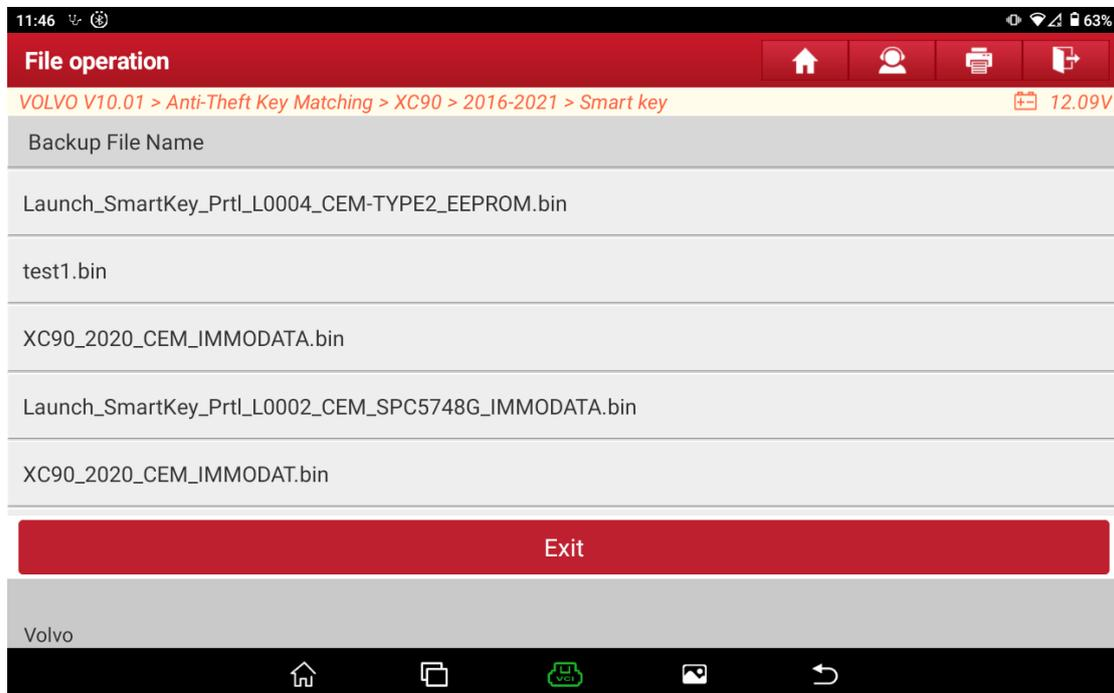
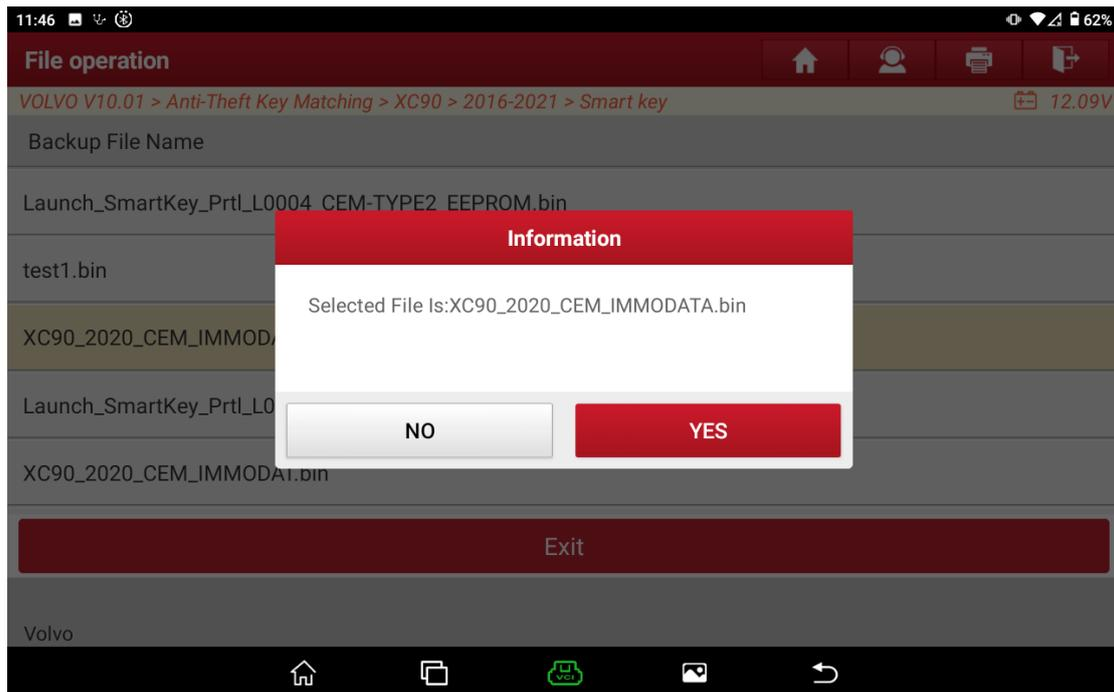

Figure 25
Figure 26
4) Select the read data file, here we select file XC90_2020_CEM_IMMODATA.bin(see Figure 25, Figure 26